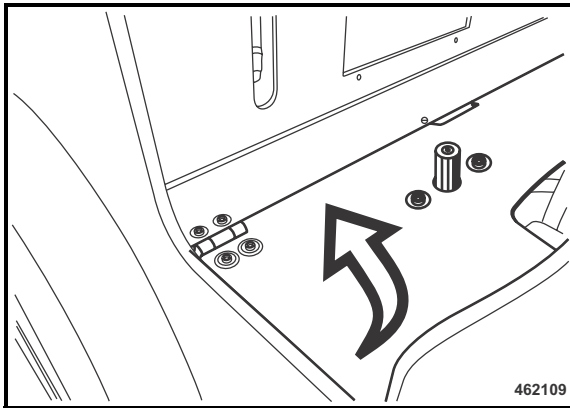

Fig. 139
- Fold up the covering hood (Fig. 139).